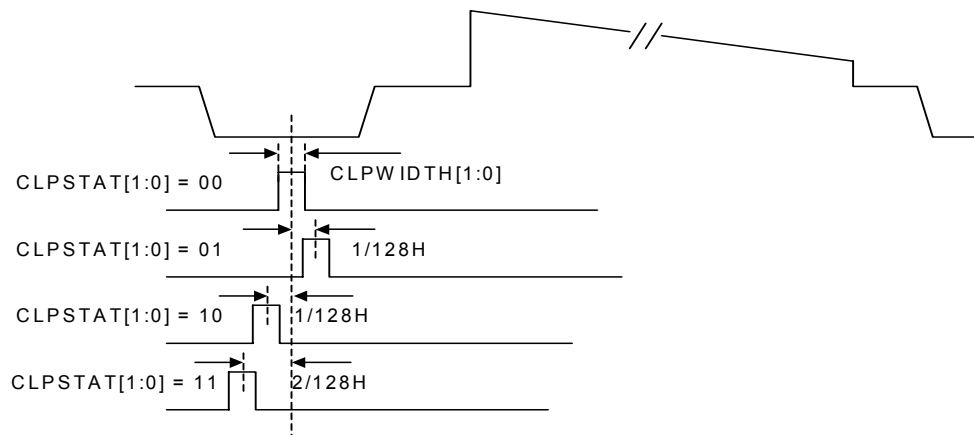

Fig.5 Clamp timing pulse
This sets the clamp position of input signal. The clamp timing pulse position is internally generated by the AK8851. Clamp timing pulse is generated at the center position of SYNC signal. Its pulse position is adjustable(refer to Fig.5).
*Pulse Width is set by [CLPWIDTH1:CLPWIDTH0]-bit (refer to Fig.5)